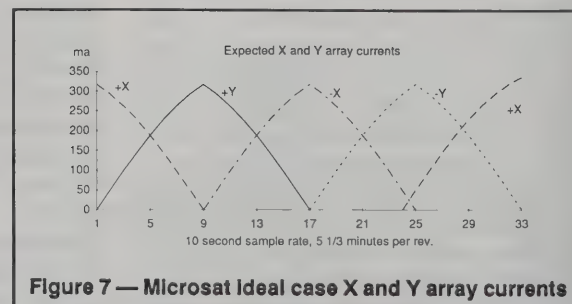

Figure 7 — Microsat Ideal case X and Y array currents
The spacecraft spin rate can be easily determined by examining array currents. The best way to do this is to plot them with a computer. See Figure 7 for an example of an ideal case. Note that the vertical (Y) axis of the graph is current and the horizontal (X) is time. Points on the X axis are 10 seconds apart. With nominal conditions we expect each of the side panels to rotate into the sun and out again as the spacecraft spins around the Z axis. A plot of the X and Y surface array currents will show the current from one surface start out at zero, slowly climb to a maximum, then drop to zero again, as it rotates into then out of the sun. As an example, let's assume the +X panel is fully in the sun. Its array current will be about 340 mA. This is the expected current with a sun angle of 22.5 degrees, the nominal angle of the sun to the orbit plane. No current will be generated by the other X panel because it is in full shadow on the 'back' side of the spacecraft. The Y panels also will not be generating current because they are parallel to the sun's rays. As the spacecraft rotates (counter clockwise as viewed from the +Z), the current from the +X panel will slowly drop and the +Y panel will start to generate current as it comes into the sun. When the spacecraft has rotated 45 degrees the +X and +Y panels will be receiving equal sun and be generating equal current. 45 degrees later only the +Y panel will be in sun and the +X current will drop to zero because it has passed into shadow. This pattern continues as the spacecraft rotates. To calculate the spin rate, count the number of seconds between the peaks of two successive panels and multiply by four.